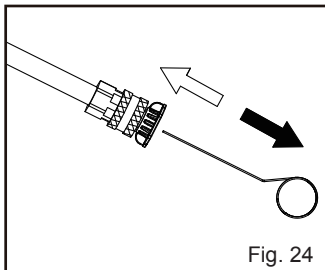

Fig. 24
- Clean the nozzle with the tip cleaner provided. Remove the spray wand from the gun and then remove any dirt from the nozzle hole and rinse (Fig. 24).